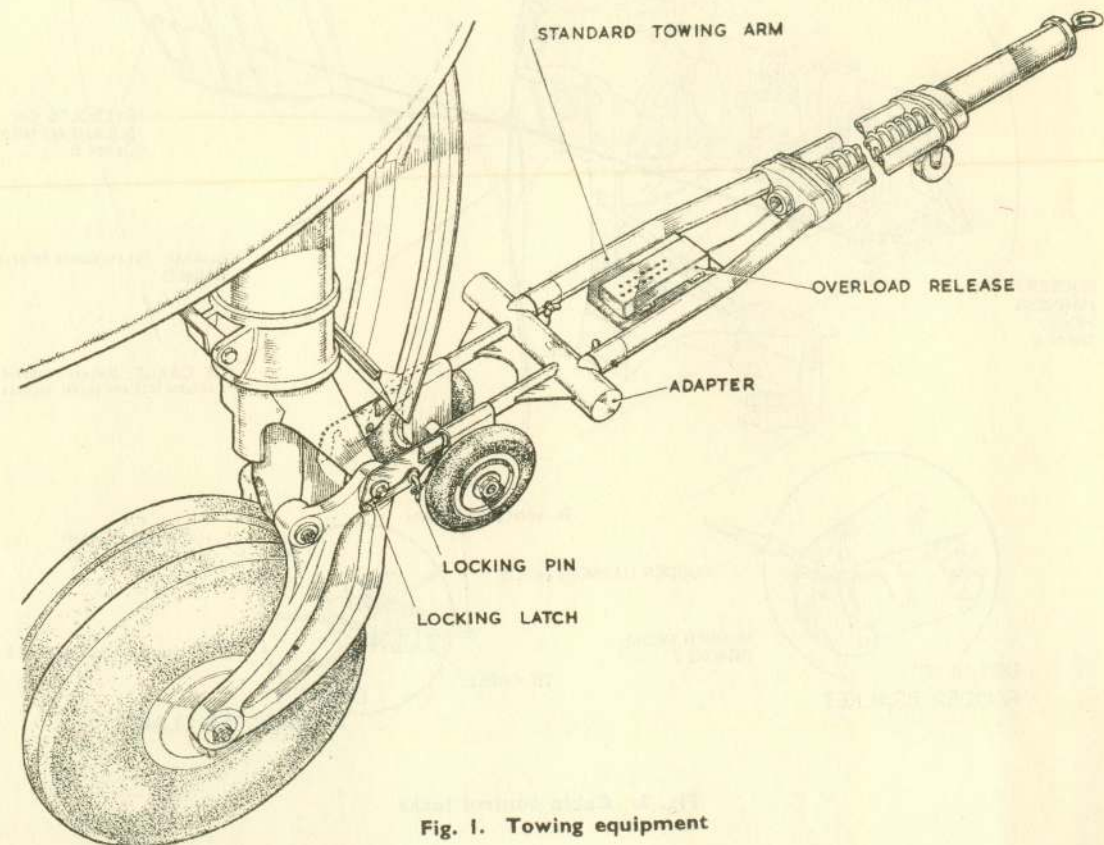

Fig. 1. Towing equipment
3. The aircraft may be towed by tractor using the standard towing arm, described in A.P.2817A, Vol. 1, Sect. 9, Chap. 4 and the special adapter arm shown in fig. 1.